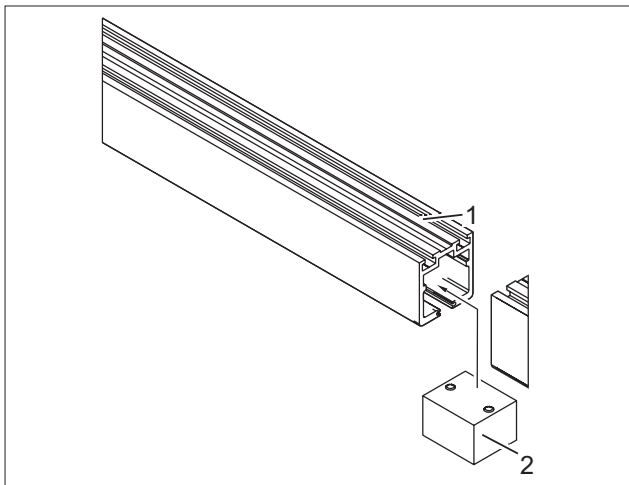

Fig. 18 Inserting the upper pivot bearing
5. Insert the upper pivot bearing (Fig. 18/2) into the track rail through the revision opening (Fig. 18/1).